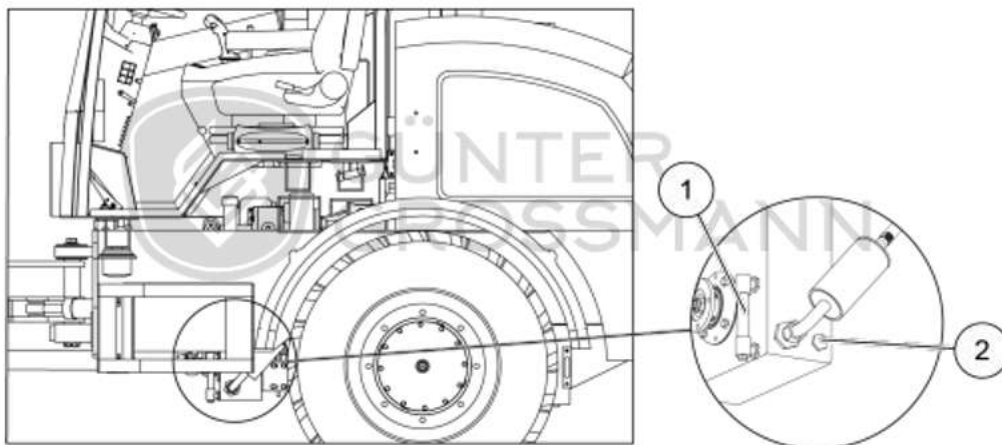

Figure 6-22 Transmission oil level gauge
Step 2: Start the engine, run at idle speed for 2 to 3 minutes and then stop. When the oil temperature is 50°C to 60°C, the oil level of the transmission oil level gauge (1) should be in the middle position, as shown in Figure 6-22;